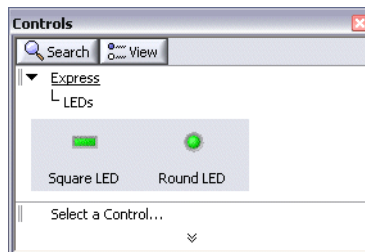

Figure 2-4. LEDs Palette
2. On the **Express** palette, select the **LEDs** palette, shown in Figure 2-4.